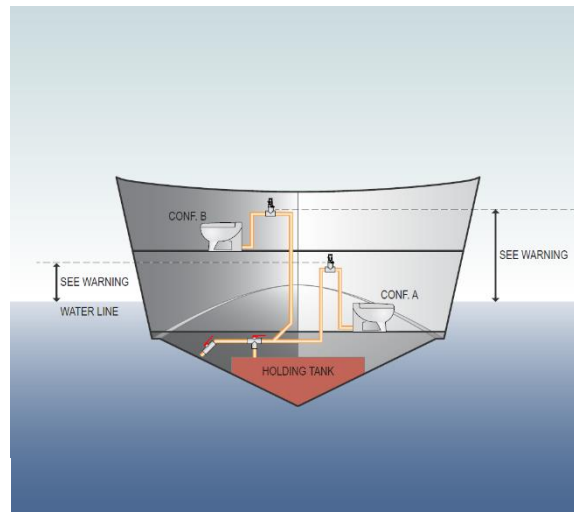

Fig. 1
WARNING: Toilet configuration (A). The toilet is installed below the floating line. Install a VENT VALVE at a height greater than the line. See fig. 1.
WARNING: Toilet configuration (B). Toilet installed above the floating level. Install a VENT VALVE to prevent siphoning phenomena that may cause unpleasant odours. See fig. 1.